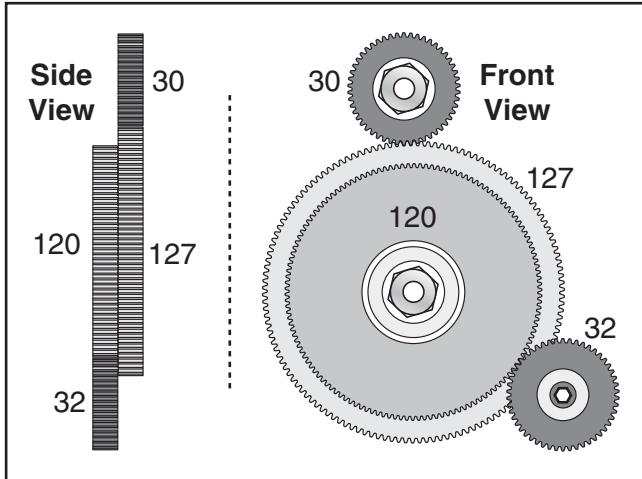

Figure 56. Change gear configuration example.
7. Select the replacement gears as directed by the feed rate or threading chart (see **Figure 56** for an example of positioning).